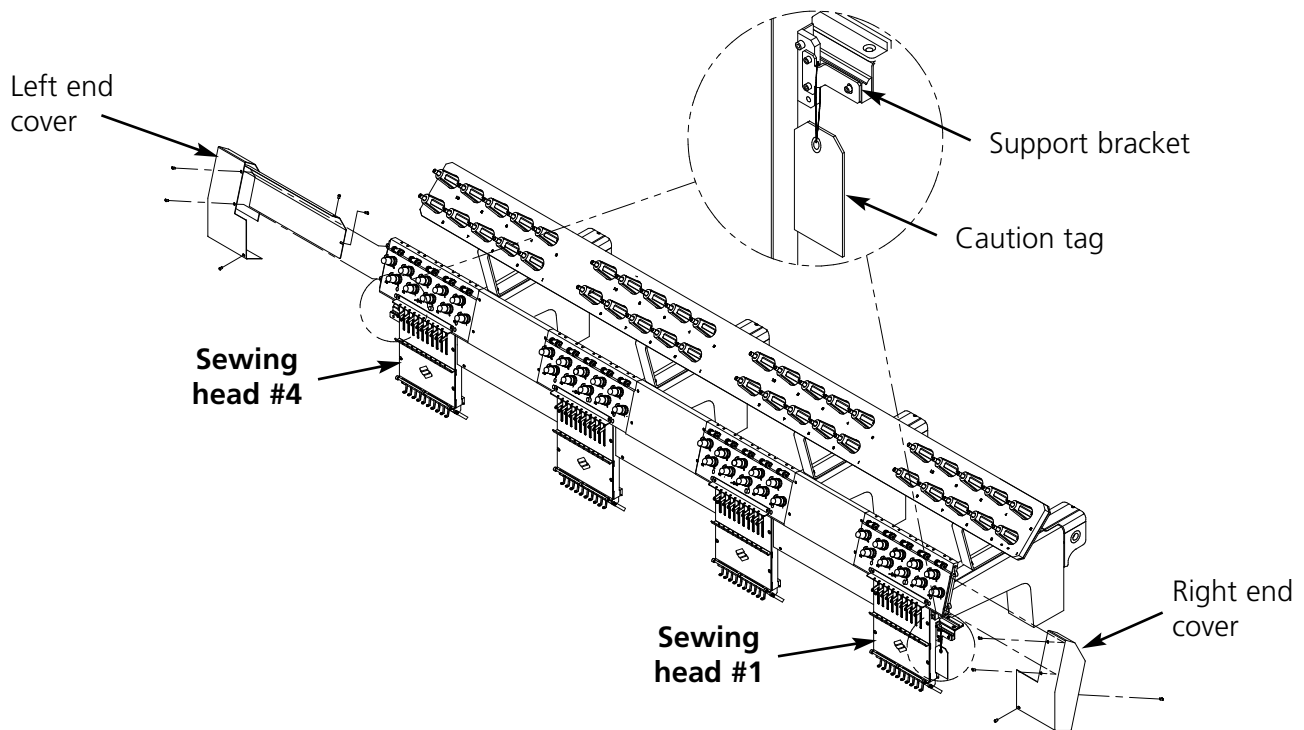

Figure 1-20
1. Remove the two supports (a caution tag is attached to each). Refer to Figure 1-20.
3. Install the left and right end covers, as shown in Figure 1-20. The screws for the covers are installed on the machine.